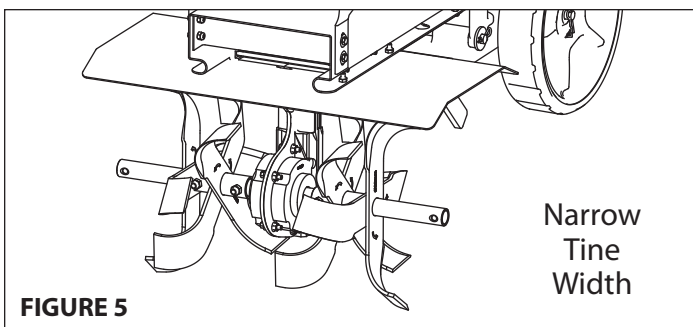

**FIGURE 3**
- Assemble axle to lower tail mount. Install wheels on each end of axle; install 12 MM washers onto axle against wheels; insert hairpins into holes in axle to keep washers and wheels in place. **SEE FIGURE 3**